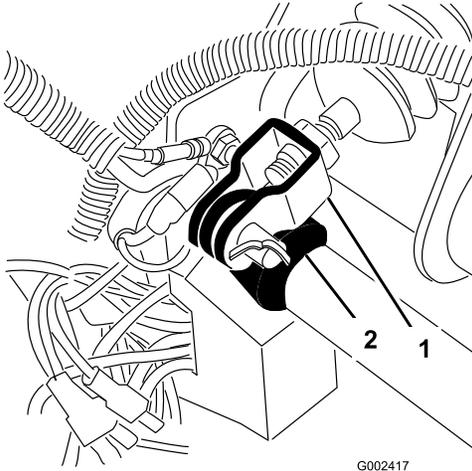

Figure 51
1. Remove the cotter pin and clevis pin securing the master cylinder yoke to the brake pedal pivot (Figure 51).
3. Loosen the jam nuts securing the yoke to the master cylinder shaft (Figure 51).